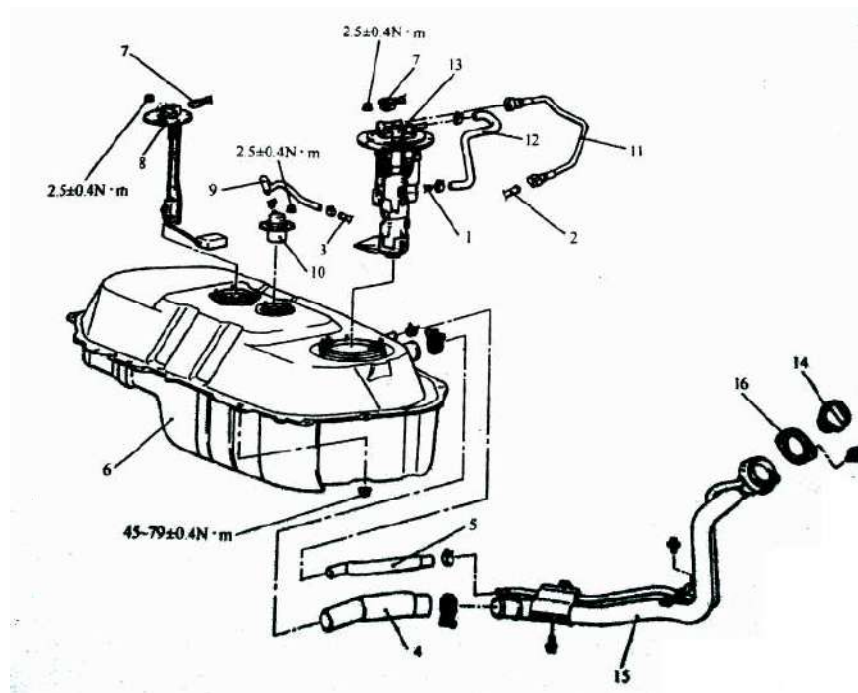

Fig.6-1
1) Removal steps (see Fig.6-1)